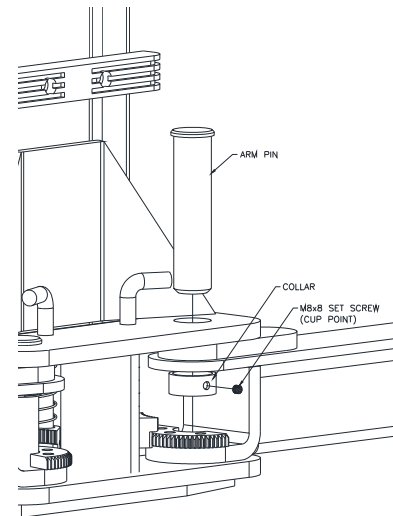

Fig. 10 –Arm Install
- 30) Lubricate the arm pin or carriage arm pin hole with “anti-seize” and install the arms as shown in Fig. 10. Once the set screw is finger tight against the arm pin, tighten ¼ turn with allen wrench.